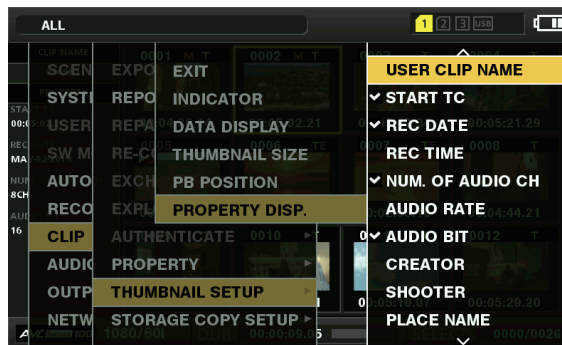

Fig. 2
- 3 Press the control stick to enter the item menu. (Fig. 2)